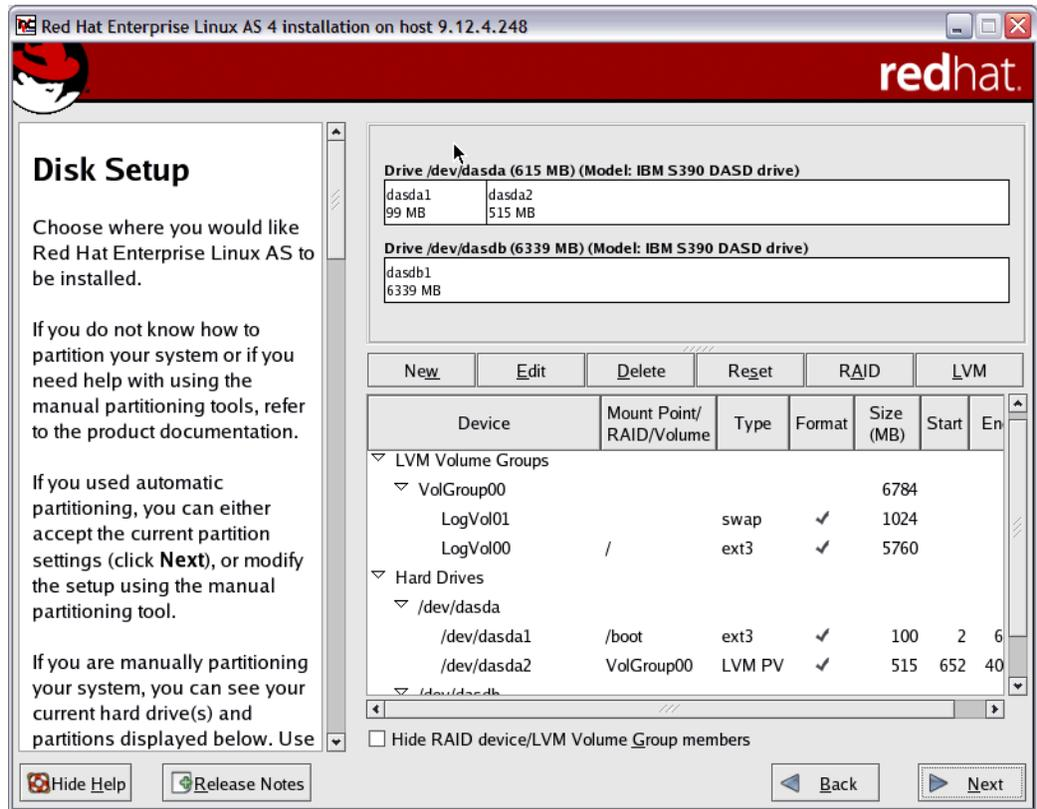

Figure E-7 Disk setup panel
- ▶ In our case, we chose **Automatically partition the disk space, using default options**. Figure E-7 on page 300 shows how the space will be automatically allocated by Red Hat.